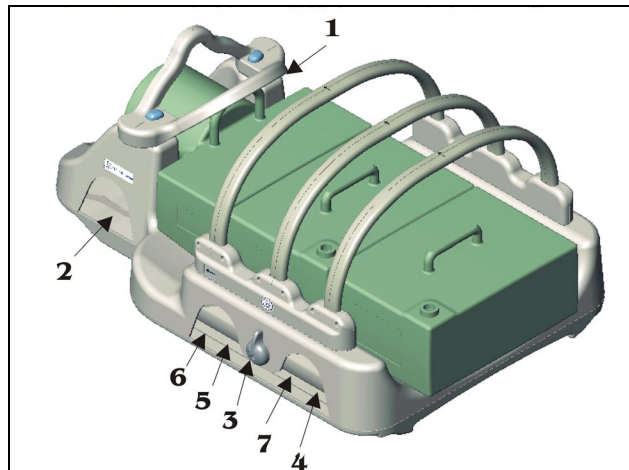
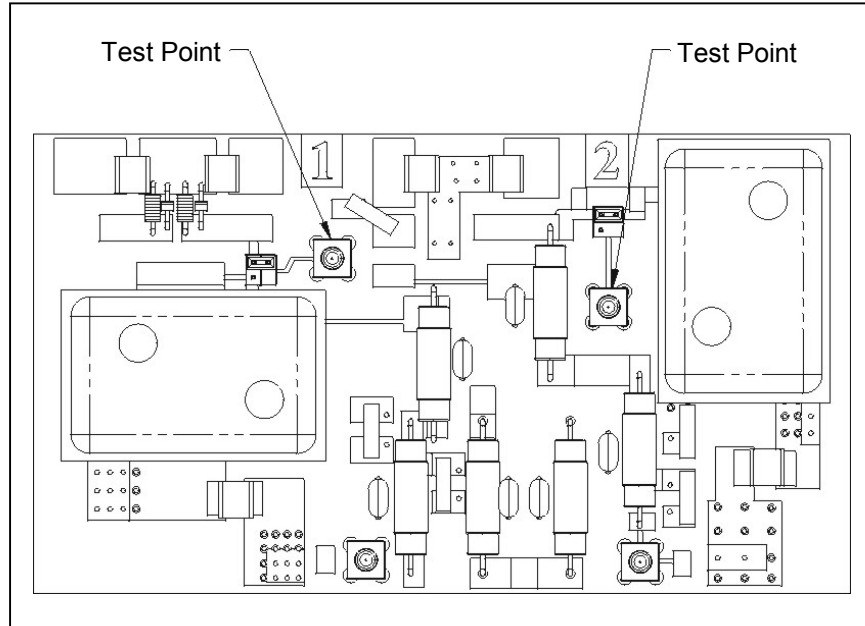

Figure 5: Coil, phantoms and channel tuning locations, with side panels removed.
Figure 6: Test points for test cable.
2. Remove the side panels from the side of the coil (see *Figure 5*).
1. Connect the test cable (SMB connector end) to the test point of channel 1 near Preamp 1 (see *Figure 6*).
11. Adjust the tuning capacitor for channel one (see *Figure 5* for tuning location) until the phase on the impedance analyzer is 0 degrees (± 5 degrees) at a **frequency of f0-10 kHz.**
1. Move the jumper near Preamp 2 to the Tune Mode position and connect the test cable to the test point of channel 2. Refer to *Figure 5* and *Figure 6*.
6. Adjust the tuning capacitor for channel 2 (see *Figure 5* for tuning location) until the phase on the impedance analyzer is 0 degrees (+/- 5 degrees) at **system frequency f₀**.
6. Adjust the tuning capacitor for channel 5 (see *Figure 5* for tuning location) until the phase on the impedance analyzer is 0 degrees (± 5 degrees) at **f = f₀ + 10 kHz**.
- Repeat the same procedure as described above for channel 6. Adjust the tuning capacitor for channel 6 (see *Figure 5* for tuning location) until the phase on the impedance analyzer is 0 degrees (+/- 5 degrees) at $f = f_0 + 10 \text{ kHz}$.
- Repeat the same procedure as described above for channel 7. Adjust the tuning capacitor for channel 7 (see *Figure 5* for tuning location) until the phase on the impedance analyzer is 0 degrees (+/- 5 degrees) at $f = f_0 - 10 \text{ kHz}$.
- Connect the test cable to the test point of channel 3 near the Preamp 3 (refer to *Figure 6*).
- Adjust the tuning capacitor for channel 3 (see *Figure 5* for tuning location) until the phase on the impedance analyzer is 0 degrees (+/- 5 degrees) at **system frequency f_0** .
- Repeat the same procedure as described above for channel 4. Adjust the tuning capacitor for channel 4 (see *Figure 5* for tuning location) until the phase on the impedance analyzer is 0 degrees (+/- 5 degrees) at $f = f_0 + 10 \text{ kHz}$.